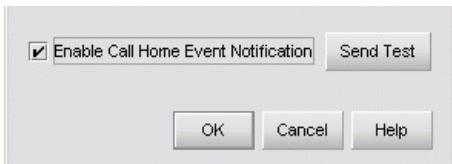

Figure 30 Call Home Event Notification Setup dialog box
2. At the HAFM or EWS main window, select the **Event Notification** and **Call Home** options from the Monitor menu. The Call Home Event Notification Setup dialog box is displayed (Figure 30).